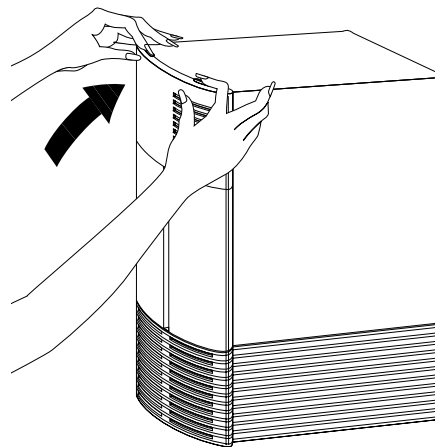

Figure 4-6 Replacing the Front Cover of the IRIS Indigo Workstation
- Tilt the cover up to the chassis, as shown in Figure 4-6. The cover snaps in place.